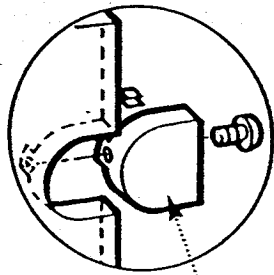

Fig. 83
3. If the appliance is flued to the left or to the right, remove the relevant infill panel by removing the retaining clips and fixing screws (Fig. 83).